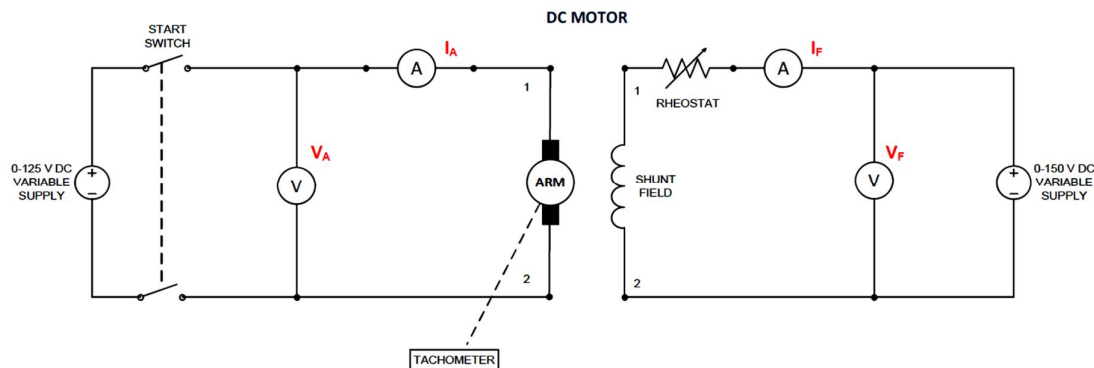

Figure 1.1
1. Make the motor connections shown in Figure 1.1 but do not turn the power ON yet.